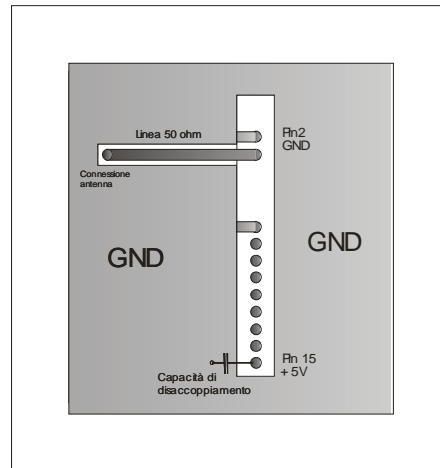

Fig. 2 – Recommended layout RX-4MHCS-SE host board
- It must surround the soldering area of the receiver. The circuit must be double-sided, with through connections on the ground planes approximately every 15mm (see fig.2).